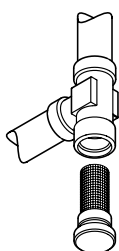

Fig. 33
4.8.1 Cleaning the C.H. water filter (fig. 33)
- The primary water filter is obstructed with impurities (fig. 33); clean the filter.